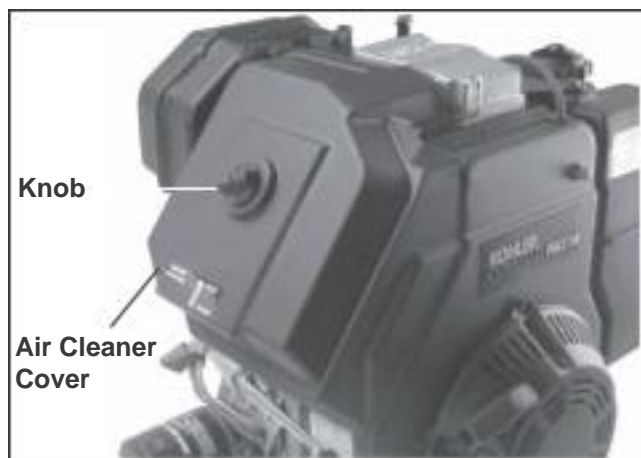

Figure 9-4. Removing Air Cleaner Cover.
1. Remove the knob and air cleaner cover. See Figure 9-4.